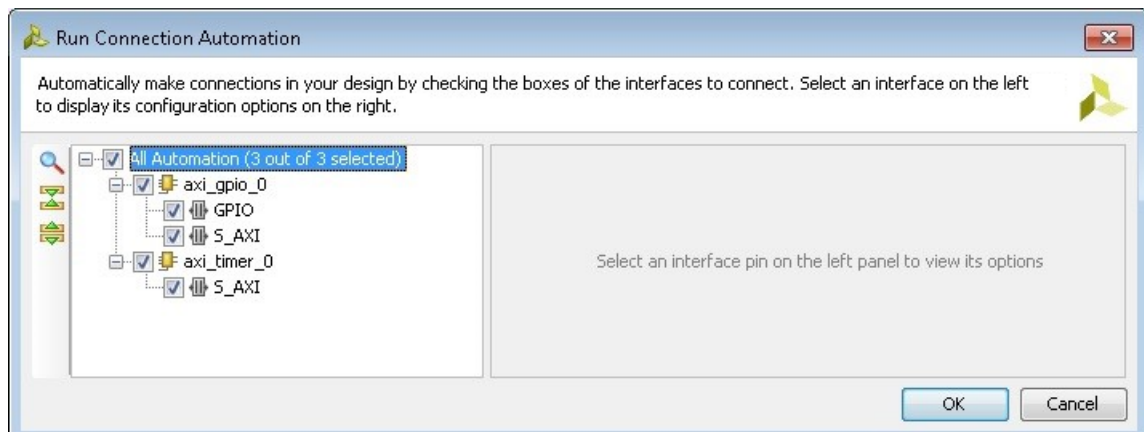

Figure 3-4: Run Connection Automation Wizard
16. In the Run Connection Automation wizard, select the check box next to **All Automation** (Figure 3-4).